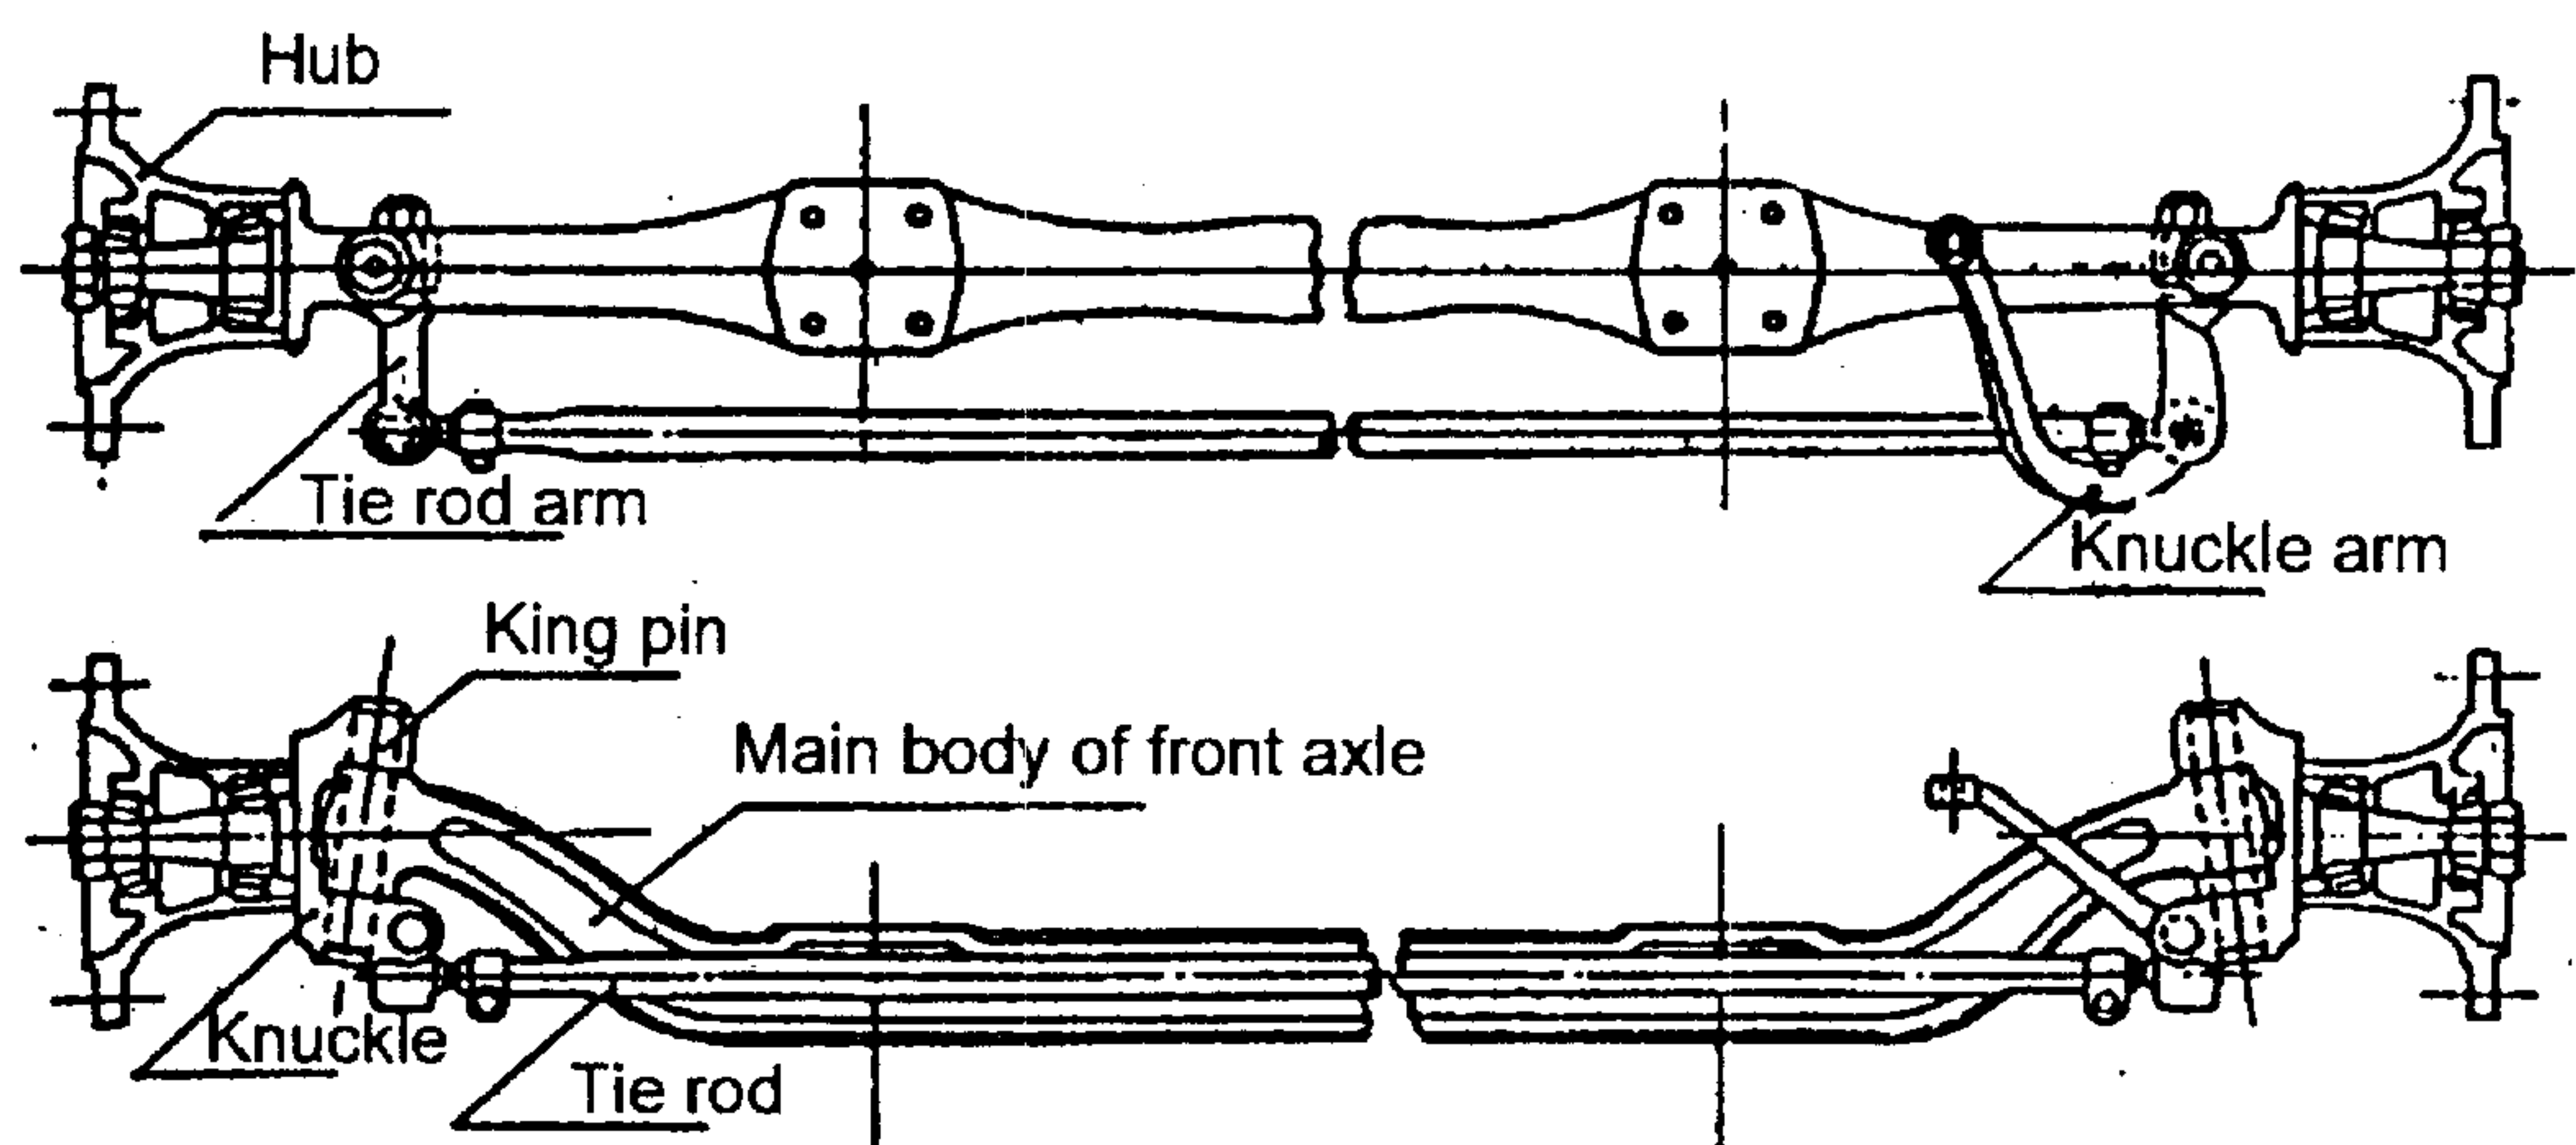

Figure 2
5.2 Preparation of Sample: Sample shall be a main body of front axle with knuckle king pin as figure 2 shows, and it is the rule to install the needed measuring spot auxiliary parts in order to measure the bending along with the auxiliary parts such as knuckle arm, tie rod arm, tie rod, and hub, etc.